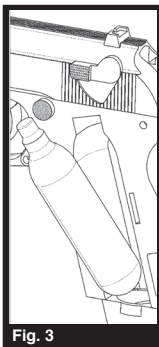

Fig. 3
- Insert the CO₂ capsule into the grip, bottom end first, with the small neck of the capsule pointing upward toward the slide **(Fig. 3)**.